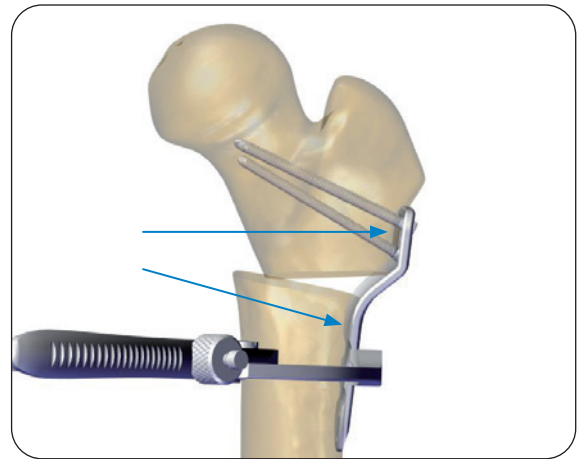

Fig. 33
**WARNING:** Ensure to position the plate parallel to the femoral shaft in the AP and lateral view, otherwise this may lead to variations to the desired neck-shaft angle and to undesired extension/flexion (Fig. 33).